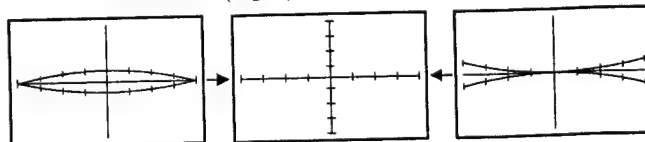

Fig. 5
2. Adjust the sub-deflection yoke so that when the (**[◀]** and **[▶]**) arrow keys are varied from their maximum to their minimum settings, the center horizontal line is not distorted. (Fig. 5)